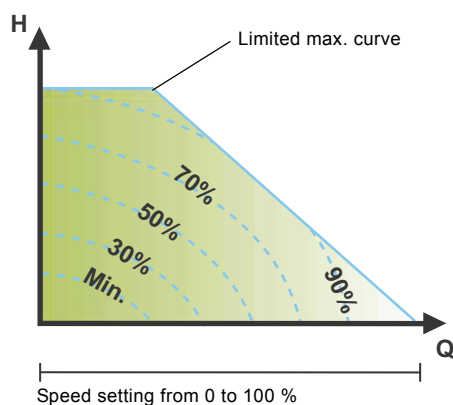

Fig. 37 Power and pressure limitations influencing the max. curve
**Note:** If the pump speed is set in the range between minimum and maximum, the power and pressure are limited when the pump is running on the max. curve. This means that the maximum performance can be achieved at a speed lower than 100 %. See fig. 37.